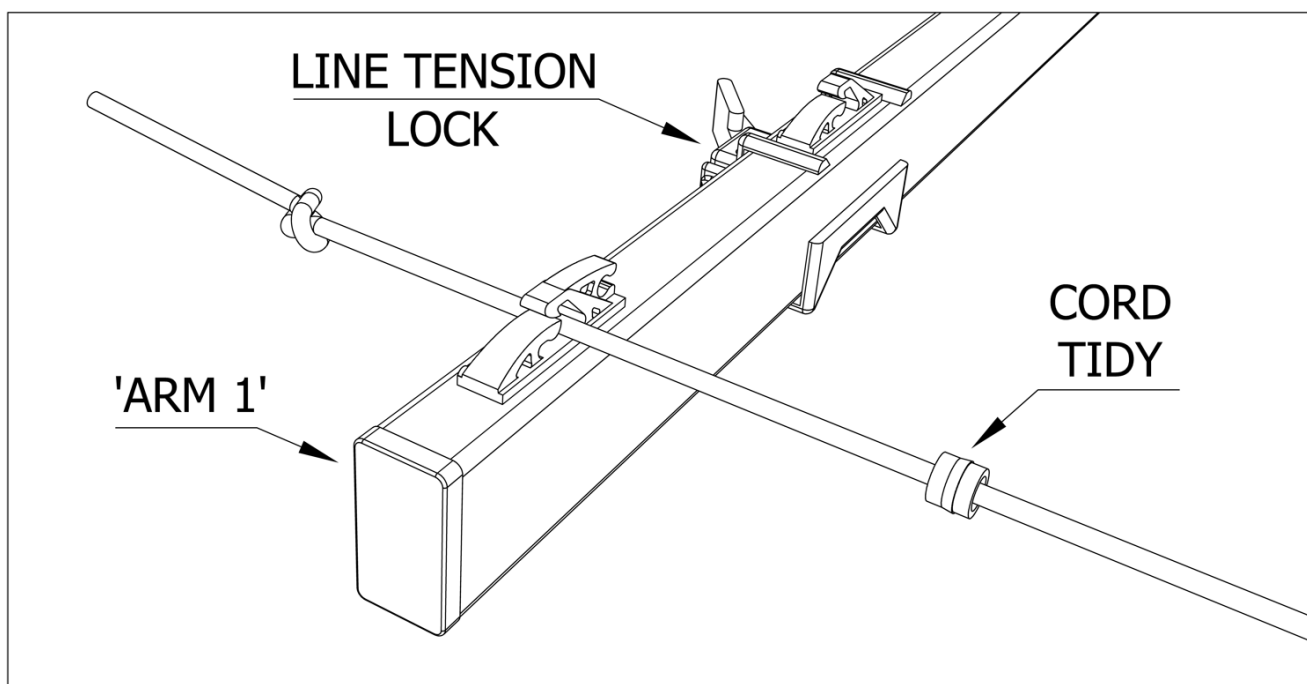

Fig 3. Cord Start – Outer line.
3. Slip a cord tidy on to the end of the cord, push it through the outermost clip on 'Arm 1' and tie a simple knot. Ensure the knot has a tail approx. 50mm long. (Fig. 3)